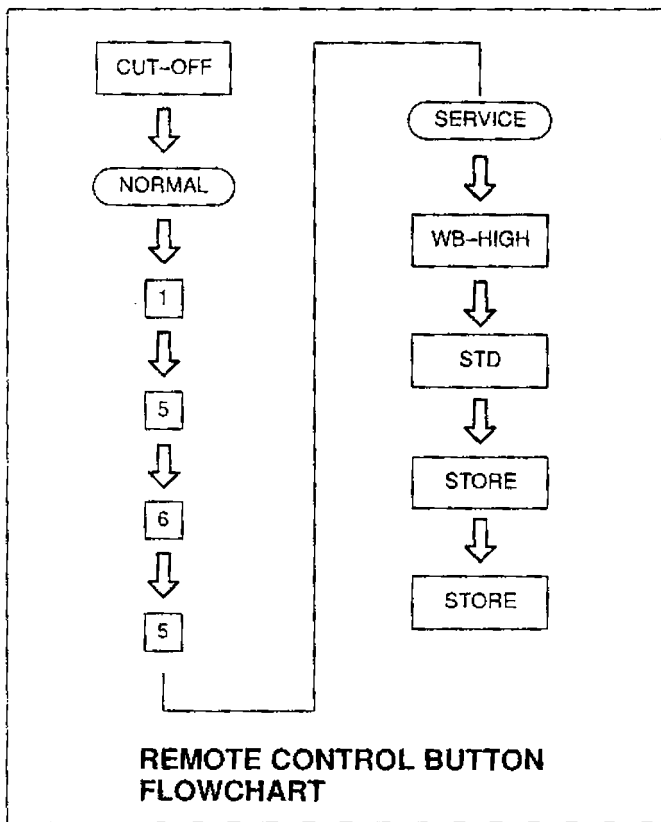

Fig. 29
9. Press the buttons on the remote controller in the order as shown in Fig. 29 below.